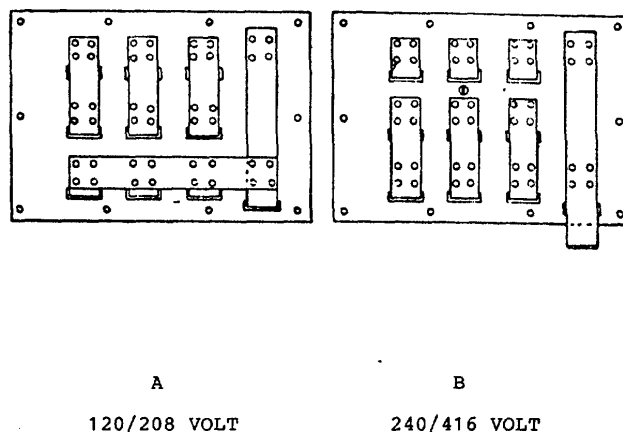

Figure 4-8. Output Voltage Conversion Connections
- a. To convert generator set output voltage from 120/280V AC to 240/416V AC, refer to figure 4-8 and proceed as follows:
- (1) Unscrew fasteners on reconnection box cover and lift cover to obtain access to the movable jumpers.
- (2) Remove attaching hardware and adjust jumper bars for low wye, 120/208V AC (A, figure 4-8) or high wye, 240/416V AC (B, figure 4-8) configuration.
- (3) Securely reinstall attaching hardware and close reconnection box cover.